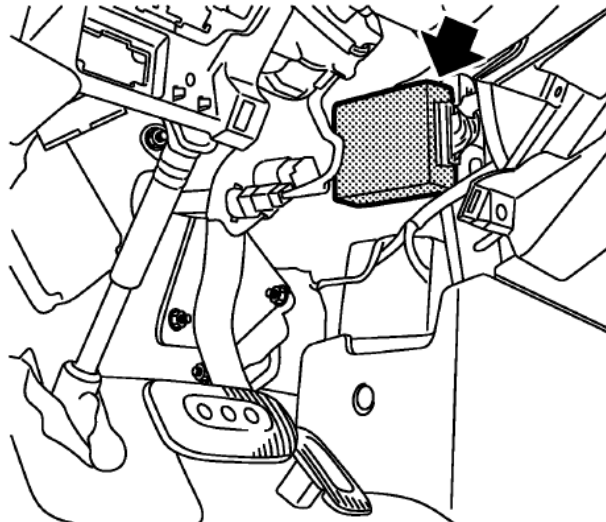

Fig 6.3 PEPS module mounting illustration
- The PEPS module should be mounted vertically as much as possible like Fig 6.3.